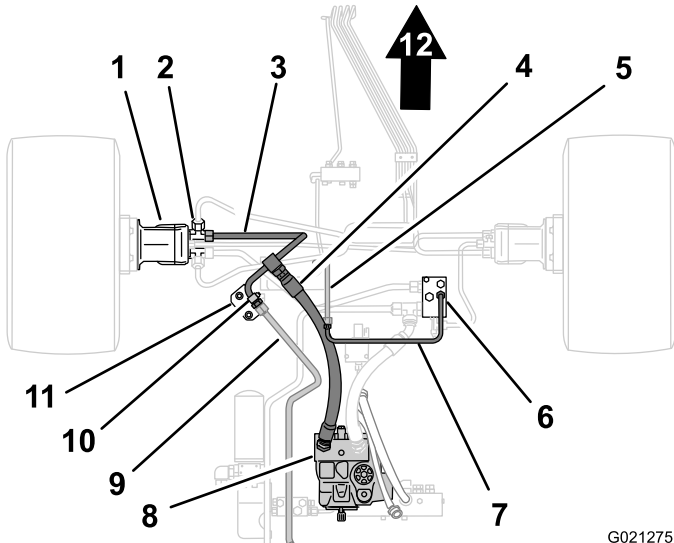
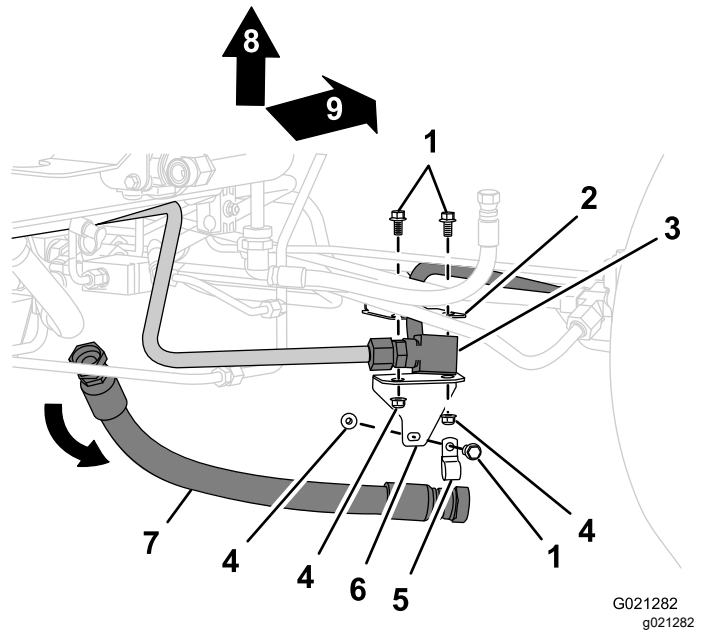

Figure 2
Figure 3
1. Align a drain pan below the forward end of the pressure hose (Figure 2).
2. Remove the forward end of the pressure hose from the fitting in the divider tube, and allow the hydraulic fluid to drain from the hose and tube (Figure 2).
3. Remove the rear end of the pressure hose from the fitting in the hydraulic pump, and remove the pressure hose (Figure 2 and Figure 3).
2. Remove the tube nut for the cross tube from the fitting in the rear-traction manifold (Figure 2).
3. Remove the tube nut for the filter tube from the fitting in the cross tube, and remove the cross tube (Figure 2).
1. Remove the bolt and the nut that secure the divider tube to the tube bracket, and remove the clamp (Figure 3).
2. Remove the 2 bolts and the 2 nuts that secure the tube bracket to the chassis bracket (Figure 3).
2. Remove the tube nut of the divider tube from the T-fitting in the front-left traction motor, and remove the tube from the machine (Figure 2).